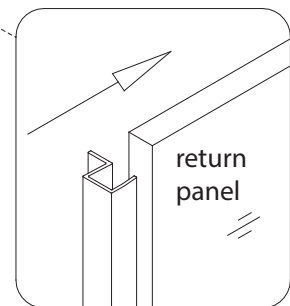

Fig 7
7. Repeat Step #6 to mount the second **Support Bar (#04)**. (**Fig 7**)